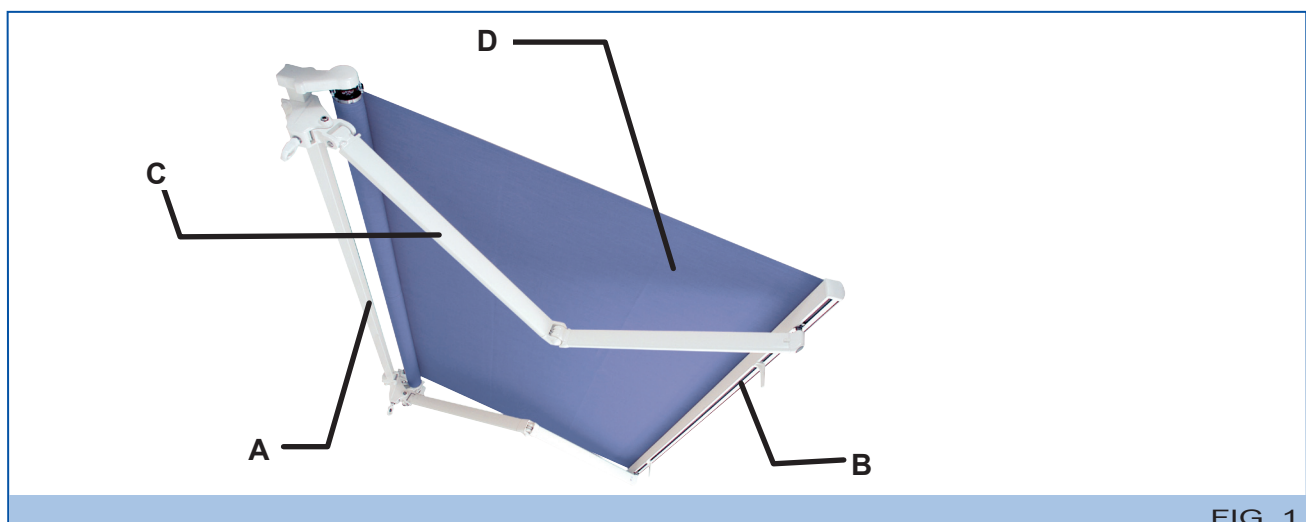

FIG. 1
- **Metal structure:** this consists of a frame containing the various mechanisms for opening and closing the awning. It comprises a square bar (A - Fig. 1), a terminal bar (B - Fig. 1) and mechanised folding arms (C - Fig. 1) fitted with sheathed cables or a stainless steel chain.
- **Fabric (D - Fig. 1):** this covers and protects the awning.
Open and close the awning using the supplied rod (A - Fig. 1) and crank (B - Fig. 1).